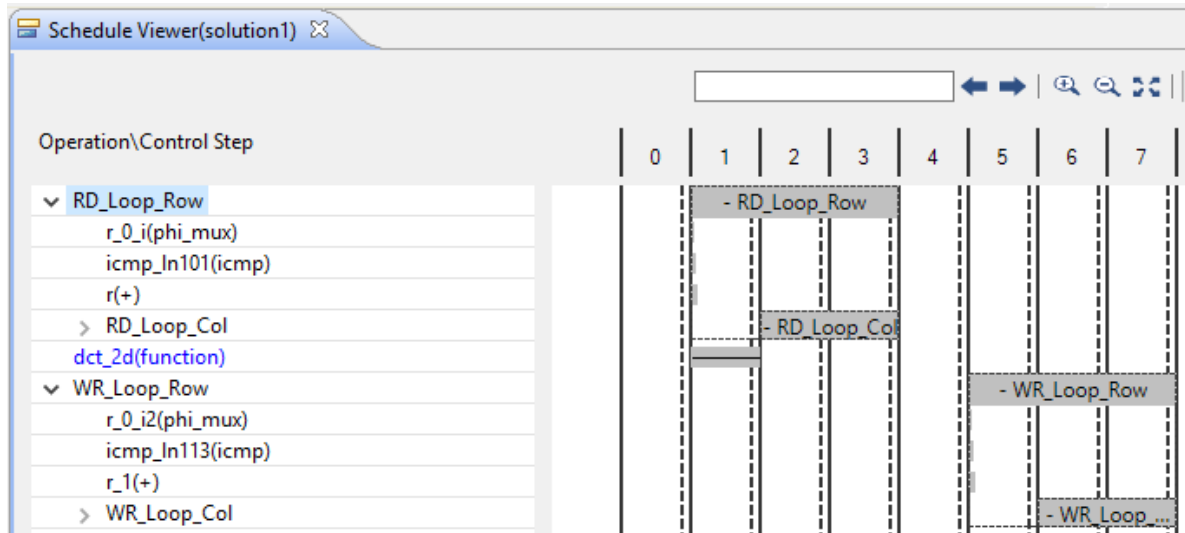

Figure 6-8: Expanded View of RD_Loop_Row
The Schedule Viewer is also shown (on the right side of Figure 6-8). This view shows how the operations in this particular block are scheduled into clock cycles.
2. Click loop **RD_Loop_Row** and sub-loop **RD_Loop_Col** to fully expand the loop hierarchy (Figure 6-8).